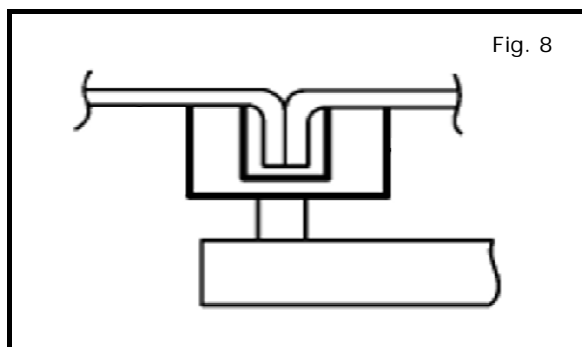

Fig. 8
- a) Place appropriate lift pad adapter on the hoist arm as shown in Fig. 8.